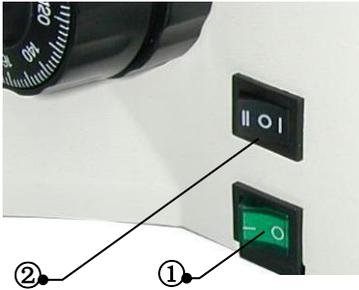

Fig.3
1. Turn on power switch ①, push the reflected light or transmitted light switch ② to position “I”. See fig.3.
1. Turn on power switch ① , push the reflected light or transmitted light switch ② to position “IP” . See fig.3.